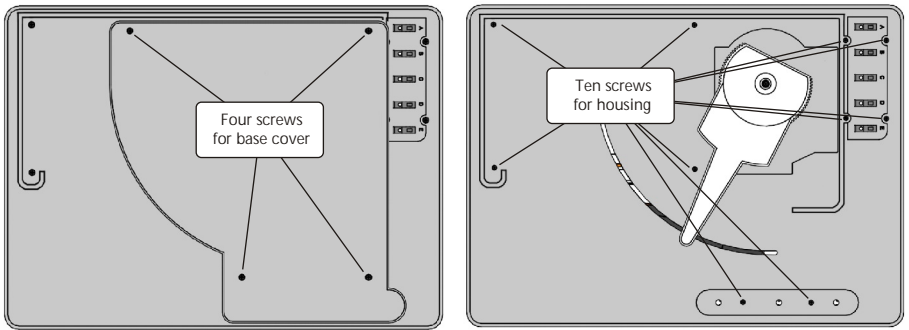

Fig 3. Removing the two sets of four and ten screws to reveal the inside of the building
- Turn the building and base upside down, propping it carefully. Remove the four (4) screws from the base cover then lift the base cover off (See Fig. 3).
- Remove the ten (10) screws located on the bottom of the base. There is no need to remove the gear. Note that the two screws that hold the pumps in place are longer than the others and be sure to replace them in the correct location when reassembling (See Fig. 3).